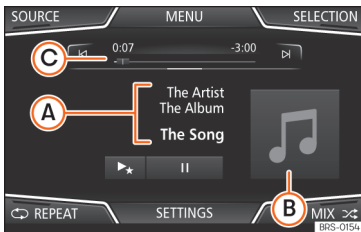

Fig. 195 Media main menu.
- Press the infotainment button **MEDIA** / **▶** »» Fig. 172 (4), »» Fig. 173 (4) to open the *Media* main menu »» Fig. 195.
The media source being played is indicated on the dropdown list when pressing the **SOURCE** function button »» Fig. 195.
Changes track in Media mode or fast forward/rewind »» Fig. 195.